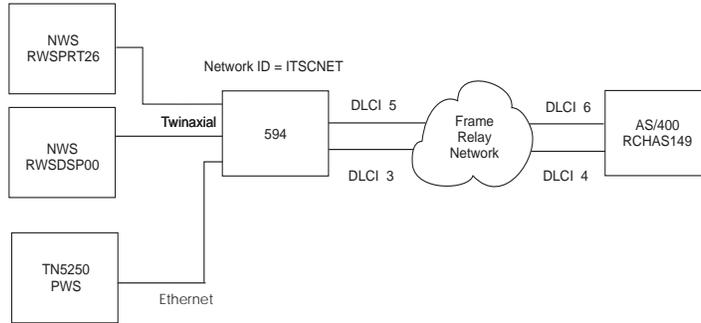

Fig. 19: AS/400 Frame Relay and IP Routing configuration
- Fig. 19: AS/400 Frame Relay and IP Routing configuration 11